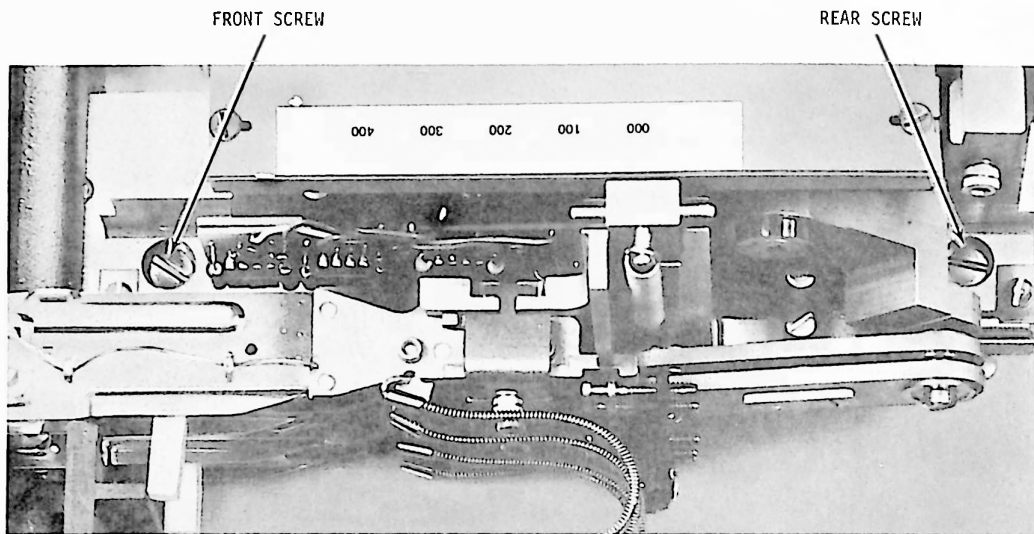

Figure 3-26. Actuator Mounting Screws
12. Position carriage forward until rear mounting screw is accessible and remove mounting screw (figure 3-26).
5. Remove transducer block by sliding it out towards front of drive (figure 3-26). Place transducer block out of the way.